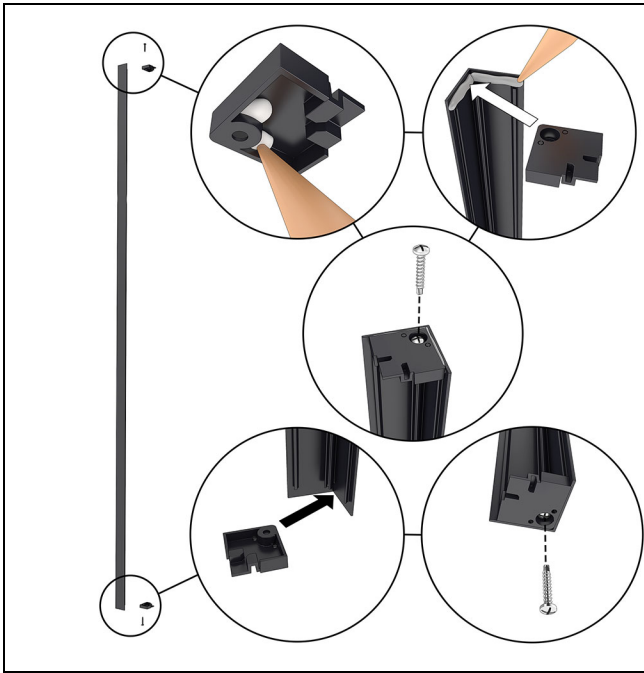

Figure 55 Install end caps on corner cover
17. Apply a 1/16" bead of sealant at the top of the corner cap. Apply a small amount of sealant to the underside of the top end cap at the knockout holes. Fasten the end caps with #8 x 1" screws into the screw boss on the corner cap. See Figure 55.